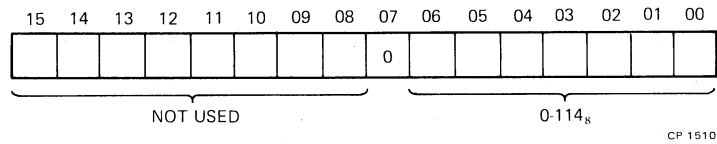

Figure 4-26 RX2TA Format (RX211/RXV21)
4.3.2.3 RX2TA – RX Track Address (Figure 4-26) – This register is loaded to indicate on which of the 114_8 ($0-76_{10}$) tracks a given function is to operate. It can be addressed only under the protocol of the function in progress (Paragraph 4.3.3). Bits 8–15 are unused and are ignored by the control.